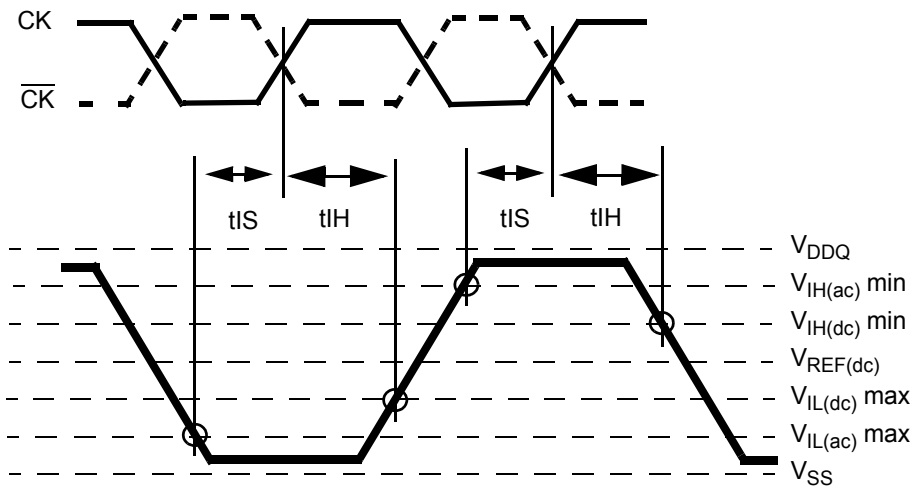

Figure 19 - Differential input waveform timing -  $t_{IS}$  and  $t_{IH}$
- 22. Input waveform timing is referenced from the input signal crossing at the  $V_{IH(AC)}$  level for a rising signal and  $V_{IL(AC)}$  for a falling signal applied to the device under test. See Figure 19.
- 23. Input waveform timing is referenced from the input signal crossing at the  $V_{IL(DC)}$  level for a rising signal and  $V_{IH(DC)}$  for a falling signal applied to the device under test. See Figure 19.